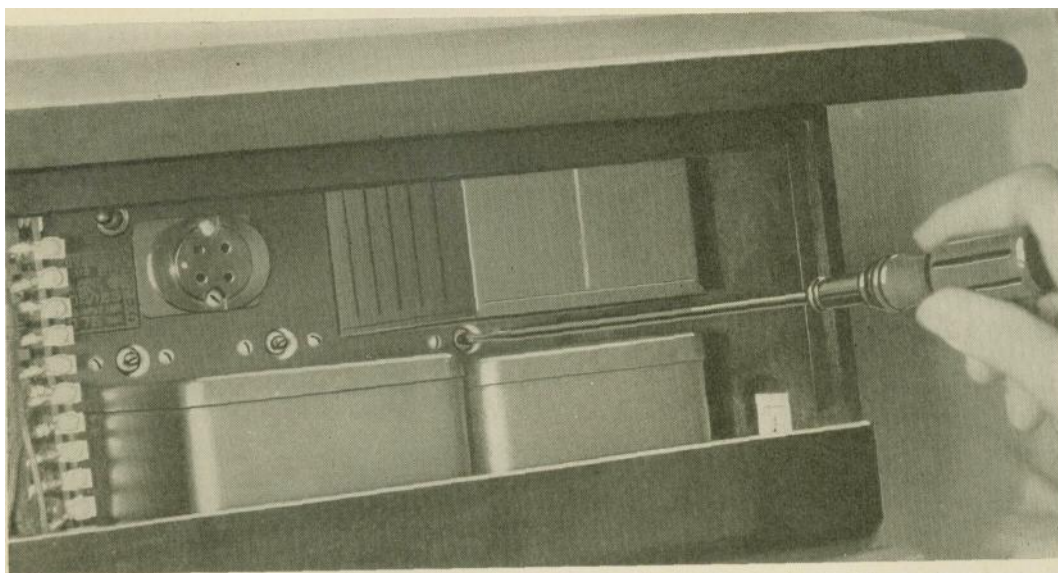

Figure 13—Using a long screwdriver in adjusting the potentiometer for minimum hum.
- (d) Adjust potentiometer, located at extreme right when facing front of Radiola (Figure 13), for position of minimum hum.